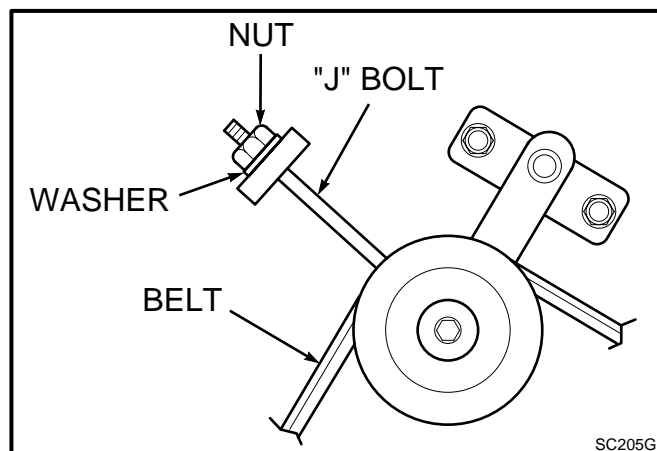
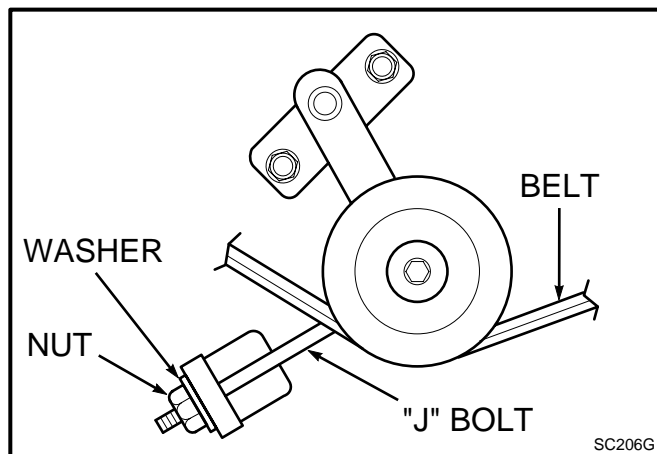

Figure 6 - SMZ-52
Figure 7 - SMZ-61 & SMZ-48
3. To adjust RH blade drive belt: Adjust RH belt tension so belt moves 1/2" with 10 pounds pressure. Adjust tension by tightening or loosening J-bolt. (See Figure 6 for SMZ-52; See Figure 7 for SMZ-61 & SMZ-48)